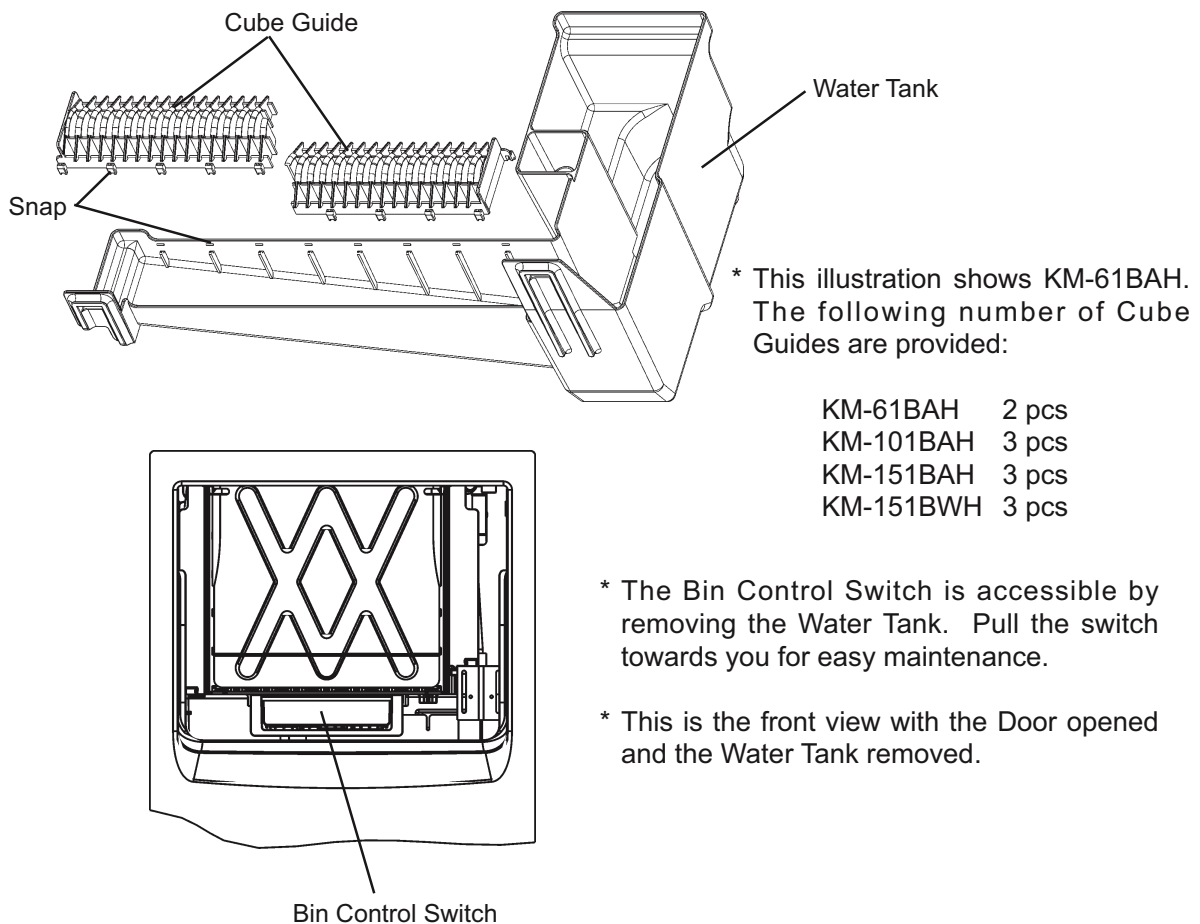

Fig. 33
- 14) Pull the Cube Guides (quantity varies depending on model) upward to remove them from the Water Tank. They are snapped in place. See Fig. 33. Refer to "V. 20. CUBE GUIDE" for details.